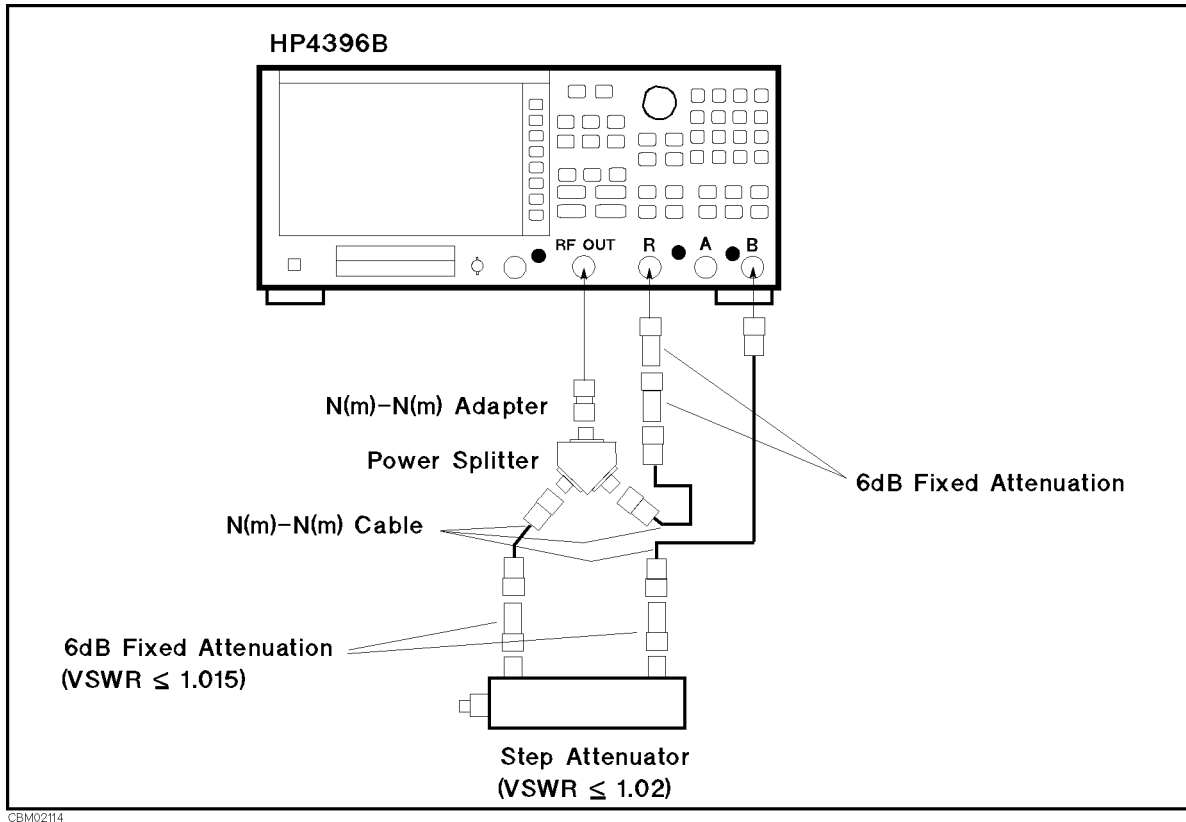

Figure 2-15. B/R Magnitude Ratio/Phase Dynamic Accuracy Test Setup 2
- i. Change the cable connection as shown in Figure 2-15.